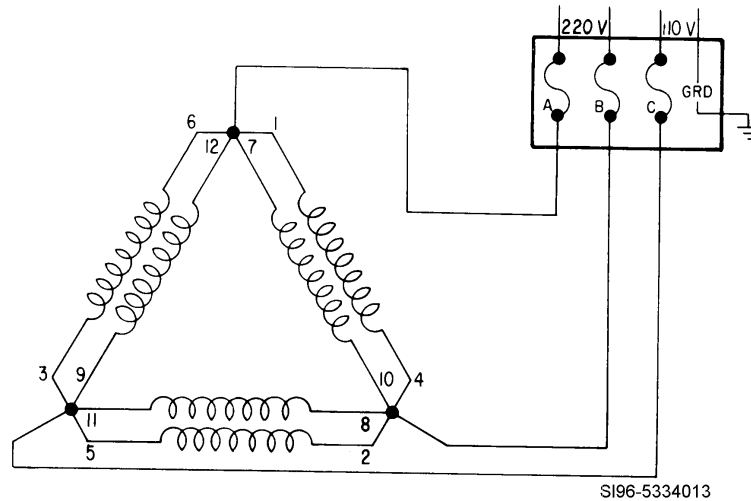

Figure 20, Three-Phase Delta-Connected Motor for Low Voltage
- Figure 20 shows a schematic diagram of a delta-connected motor for low voltage.
Figure 20 shows no external terminal leads for the start winding because the connections are made internally. Therefore, this motor is a dual-voltage non-reversible type. The start winding is always connected in parallel with the run winding. In a reversible motor, leads T5 and T8 are available externally in the terminal box.